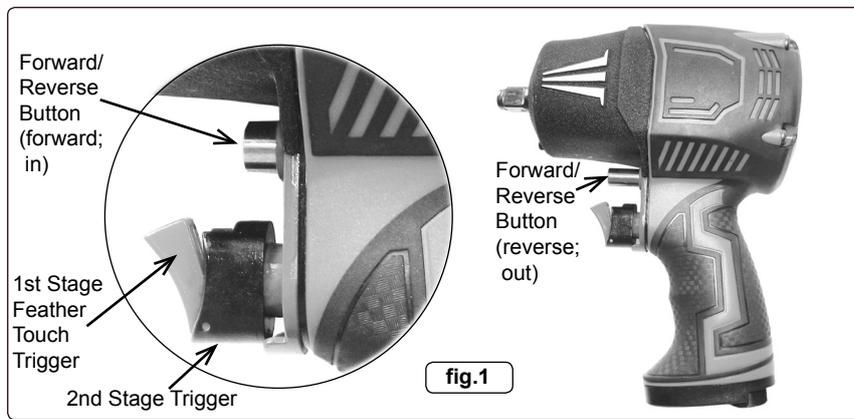

fig.1
- 4.1.3. Clean the compressor air inlet filter weekly. Recommended hook-up procedure is shown in fig.1; see also note 4.2.
- 5.4. To change the torque direction depress the button in fig.1 and release. Depress and release again for both directions. If the button remains outermost, then reverse direction; innermost then forward direction. See also "F" and "R" symbols on the impact wrench handle.
- 5.5. A "soft start" torque of 272Nm is available by depressing the primary "feather touch" trigger in fig.1.
- 5.6. Further depression of the secondary trigger in fig.1 provides the maximum torque available.